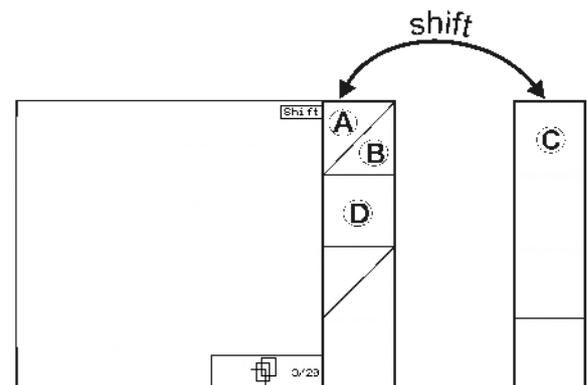

Fig. 11
- When the Shift-key is actuated, further function fields appear (Fig. 11) and the assignment of the function keys is altered accordingly.